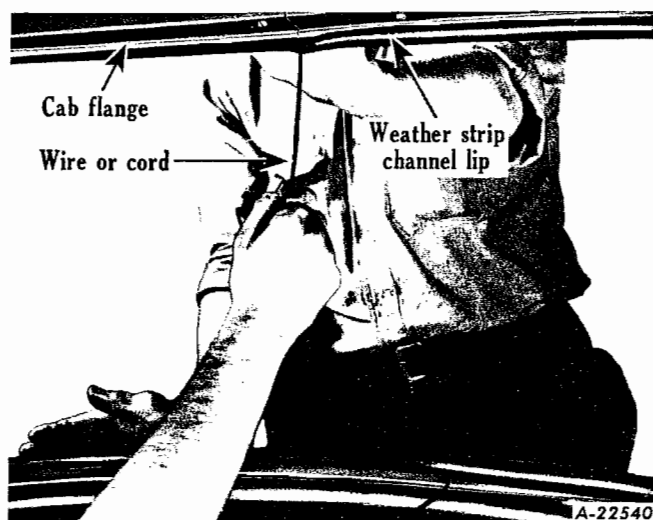

Fig. 27
7. Leave the one end of the cord at the bottom center of the glass, then grasp the opposite end of the cord to complete the drawing operation around the opposite side of the glass to within approximately 12" of completing the drawing operation. It is not important which side of the weather strip is drawn over the cab flange first. See Fig. 27.